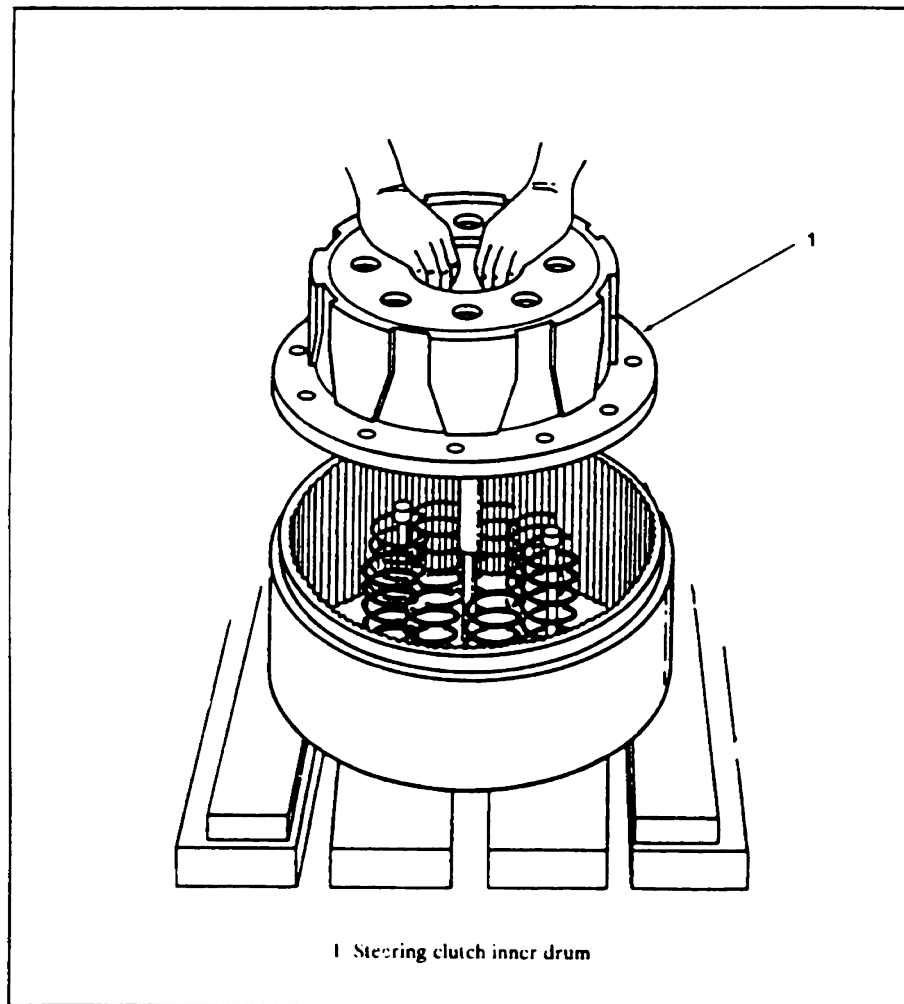

FIGURE 26. INNER DRUM INSTALLATION
Step 6. Place the inner drum on the guide pins and over the spring and sleeve assemblies (Figure 26).